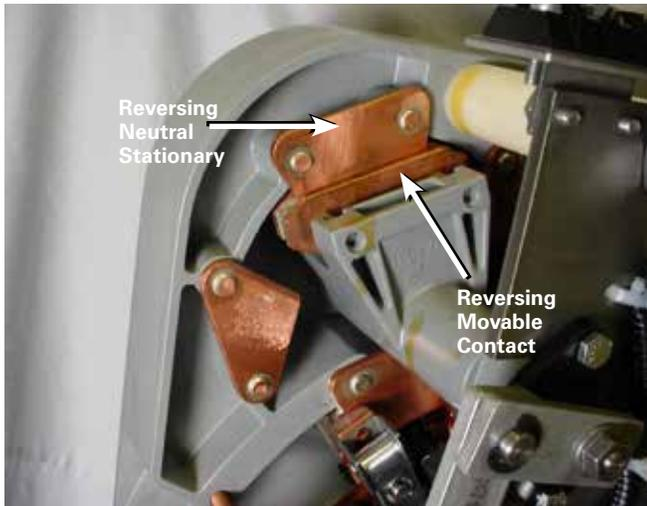

Figure 8. Neutral position for reversing movable.
B. The reversing movable contact is located on the reversing neutral stationary contact. See Figure 8.